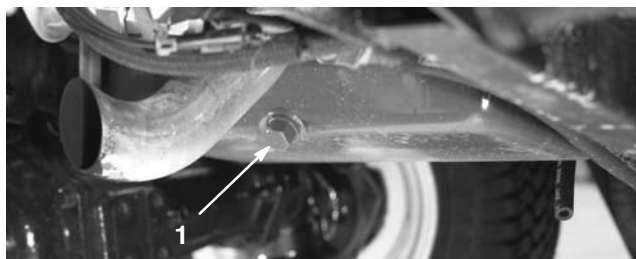

Figure 47
1. Remove either drain plug (Fig. 47) and let the oil flow into a drain pan. When the oil stops, install the drain plug.